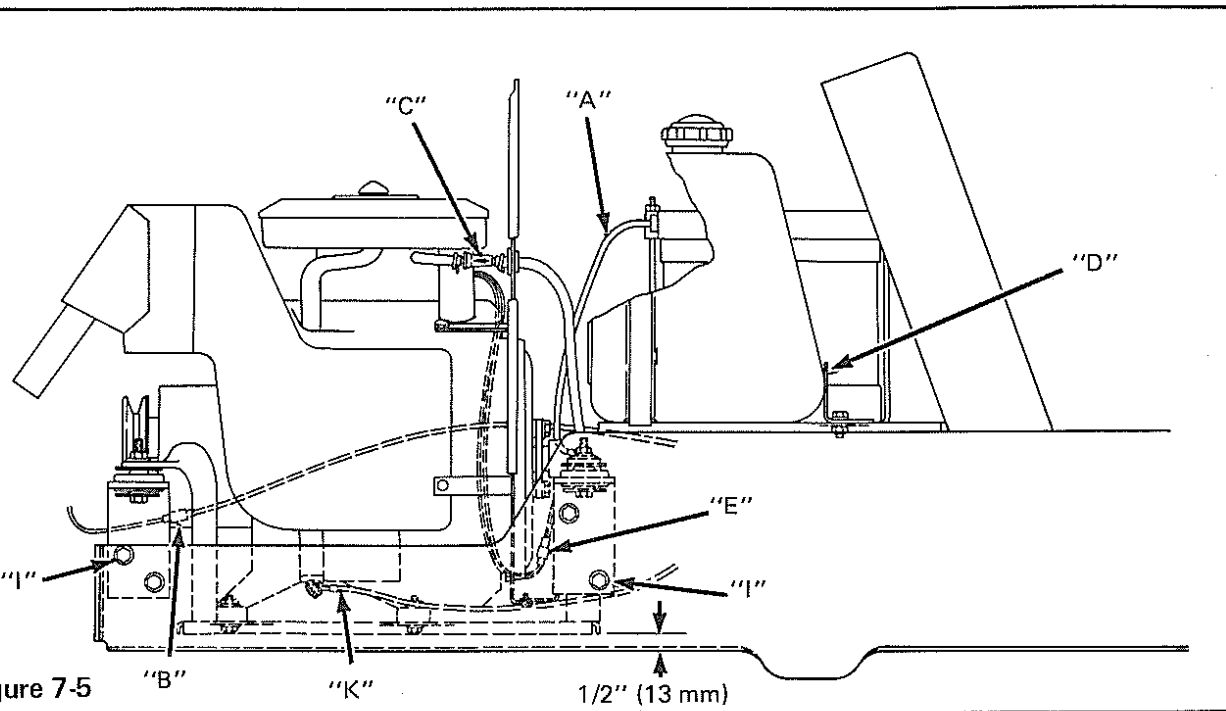
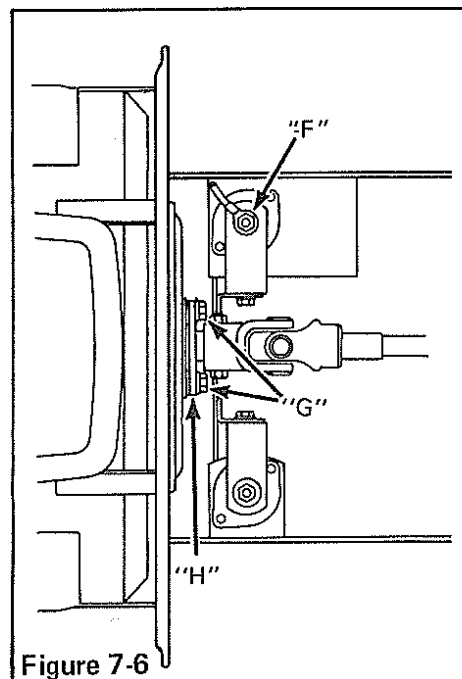

Figure 7-5
Figure 7-6
1. Connect negative battery cable (A) from battery.
2. Remove hood and side panels. Connect light harness at connector (B).
4. Use fuel petcock and connect fuel line at fuel filter. Remove bracket (D), Figure 7-5 and fuel tank.
5. Connect electric clutch wire (E).
6. Connect wire harness (E) at connector (F).
7. Remove R.H. rear engine support bolt (F), Figure 7-6 & 7-7. Note placement of star washer and negative battery cable.
8. Remove two bolts (G), Figure 7-6 securing engine hub to flywheel. Notice the flat washer between hub (H) and flywheel.
9. Scribe line on front engine supports and L.H. rear support along frame. Loosen two bolts (I) on each of the engine supports.
11. Lift engine straight up till starter wire (K), Figure 7-5 can be removed.
12. Slide hub (H) of drive shaft off when removing engine.
1. Set engine on R.H. rubber mount in rear. Lift engine and install (red) starter wire (K). Insert hub (H), Figure 7-6, of drive shaft into pilot hole in flywheel. Line up scribed line on front and rear engine supports with frame, insert two bolts (I) through each support. Secure mounts in place, holding with a gap of 1/2" (13 mm) between the bottom surface of the engine support and inside surface of the frame.